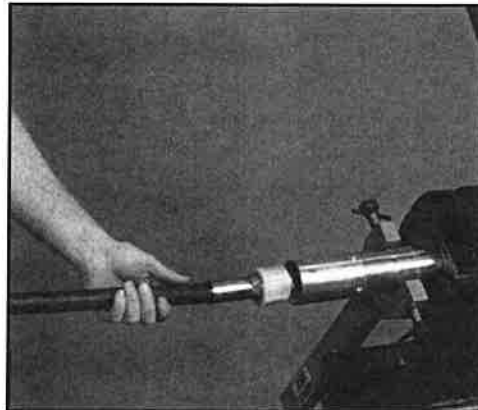

FIG. 52: INSERT CONTROL STUD
9. Insert control stud into control stud housing, lining up the two indentations inside the control stud housing with the protrusions on the exhaust ring (see Fig. 52).